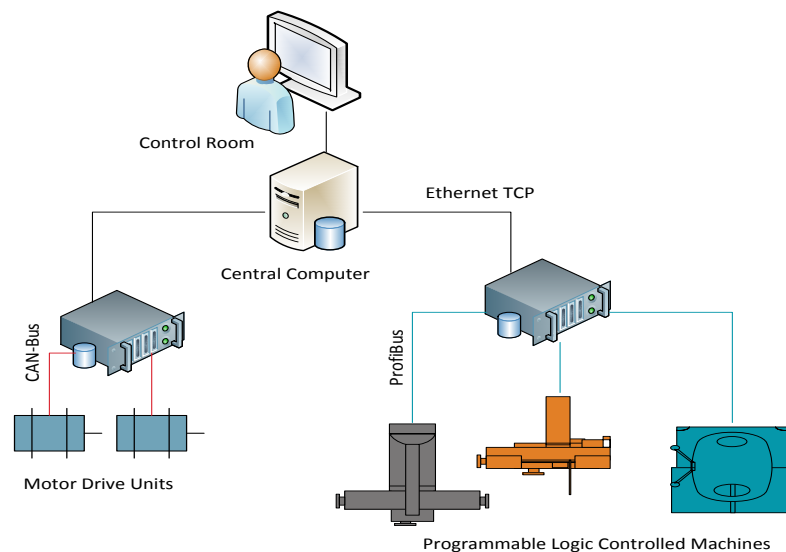

Figure 2: Example of factory automation system requiring isolation
The physical layer connects the sensors and actuators in a process module and across the factory floor or plant. As shown in Figure 2, a CAN-based bus communicates with the various motor control units while an RS-485-based bus (PROFIBUS) communicates with the various machines on the factory floor. These physical layers are used commonly in industrial automation because they are very robust even in a noisy environment and support the long distance, multi-point communication needed on a factory floor that may cover hundreds of square meters. These buses have multiple nodes that connect to the bus through a CAN or an RS-485 transceiver. Isolating these interfaces is critical to protect against high voltages, high electromagnetic (EM) noise and large ground potential differences within the network.